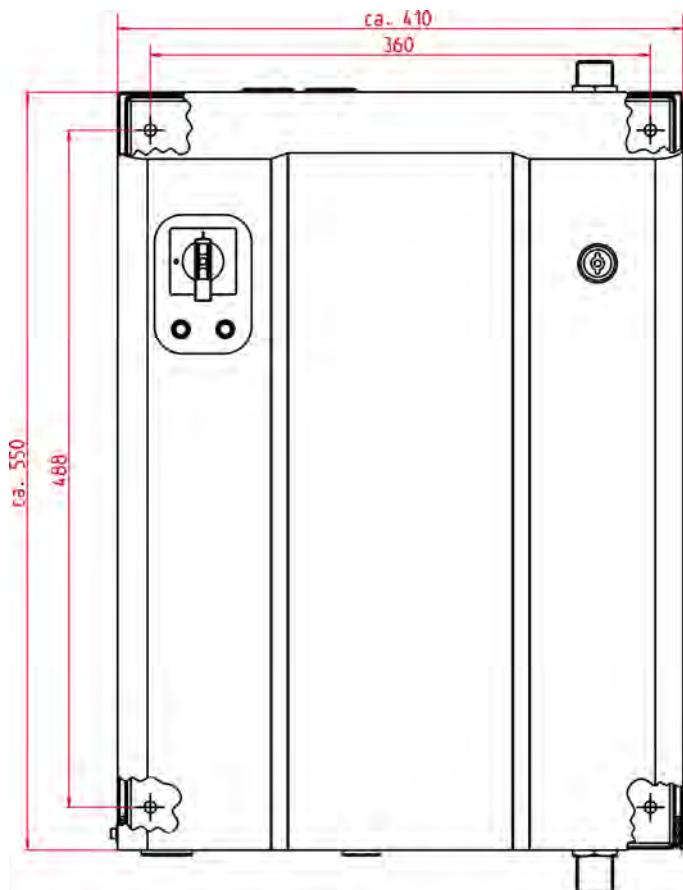

Fig. 3: Wall mounting: Lub-O-Mat Eco
- 2.** Using a folding rule, measure the above dimensions (Fig. 3) for the drill holes.